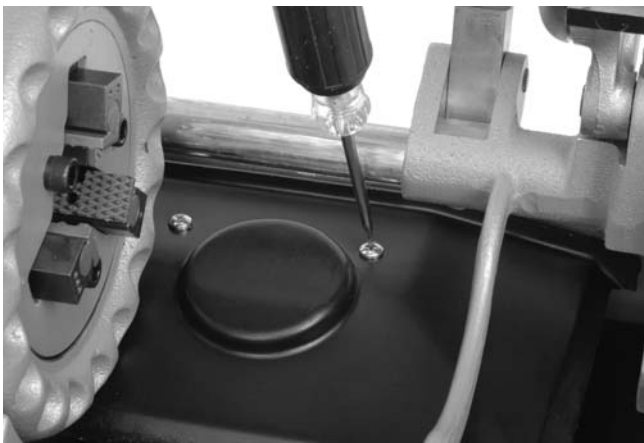

Figure 17 – Remove Plastic Chip Cover
1. Use a screwdriver to remove the plastic chip cover (Figure 17).